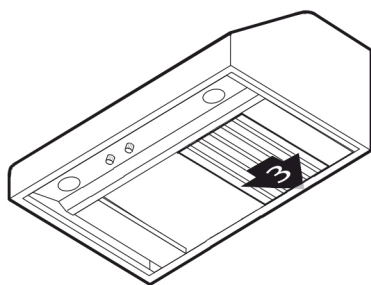

FIGURE 21: INSTALL THE STAINLESS STEEL BAFFLES – PART C
- c. Slide the baffle filter backward clearing the catch and rest securely on back edge of hood (FIGURE 21).